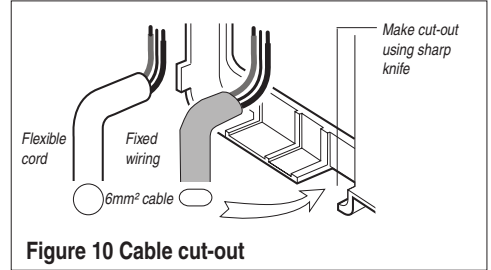

Figure 10 Cable cut-out
5.6 Cable entry can be from the rear (preferred) or from the bottom. The backplate has cut out positions to suit 2 sizes of cable. When opting for bottom entry make cut out to suit cable before fitting backplate to the wall - see Fig. 10.